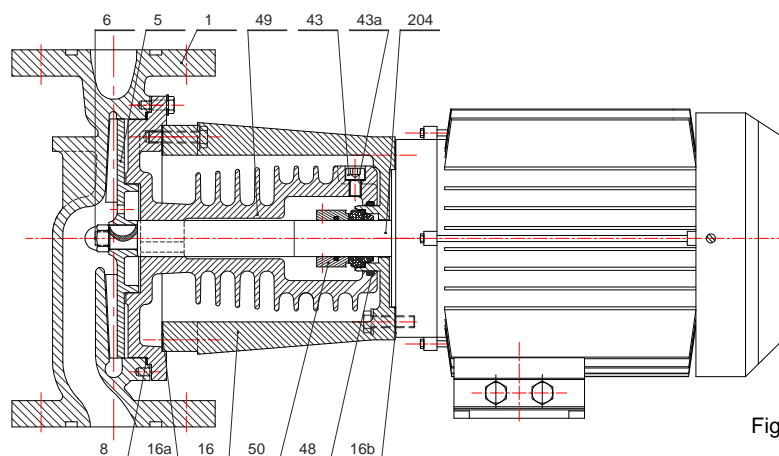

Fig 5
Horizontal or radial multi-stage centrifugal pump, with radial sealing surface with axial suction flange and radial discharge flange or IN LINE version with in-line flange fig 5. These pumps are equipped with a finned radiator which allows the cooling of the pump sealing. They are intended for pumping for pumping fluids for industrial use.
- 317, 517 and 613 pumps are online pumps fig.5